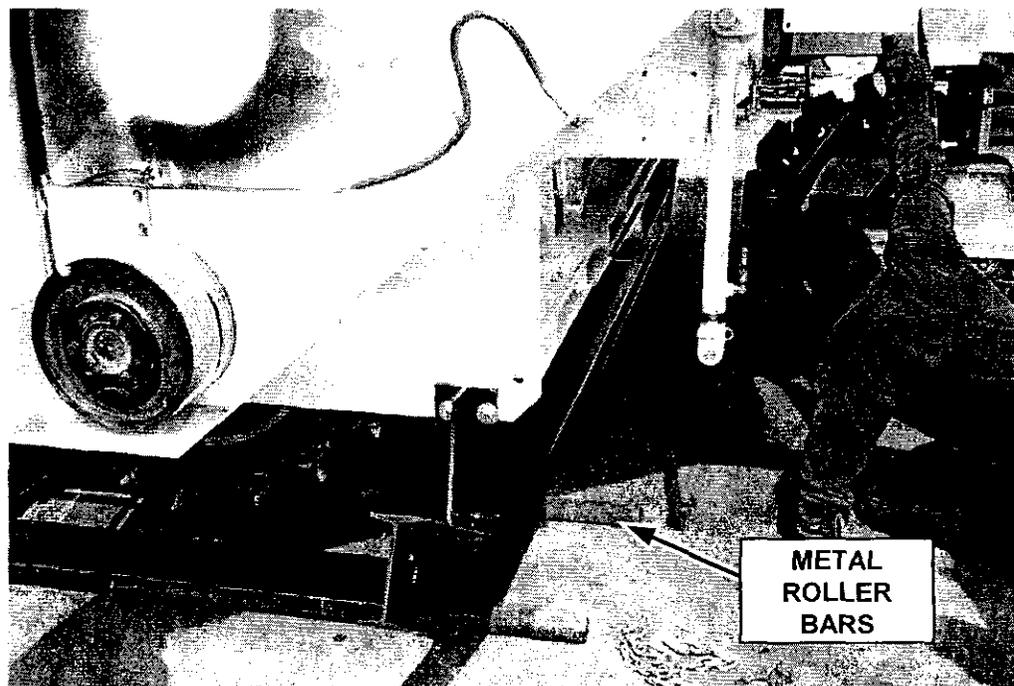

FIGURE 62
3. With the ski bolted into place safely raise the machine and ski to allow any type of roller to be placed under the ski. the illustration in figure 62 shows solid metal bars being used. The rollers allow the cutter housing and ski to be removed more easily.